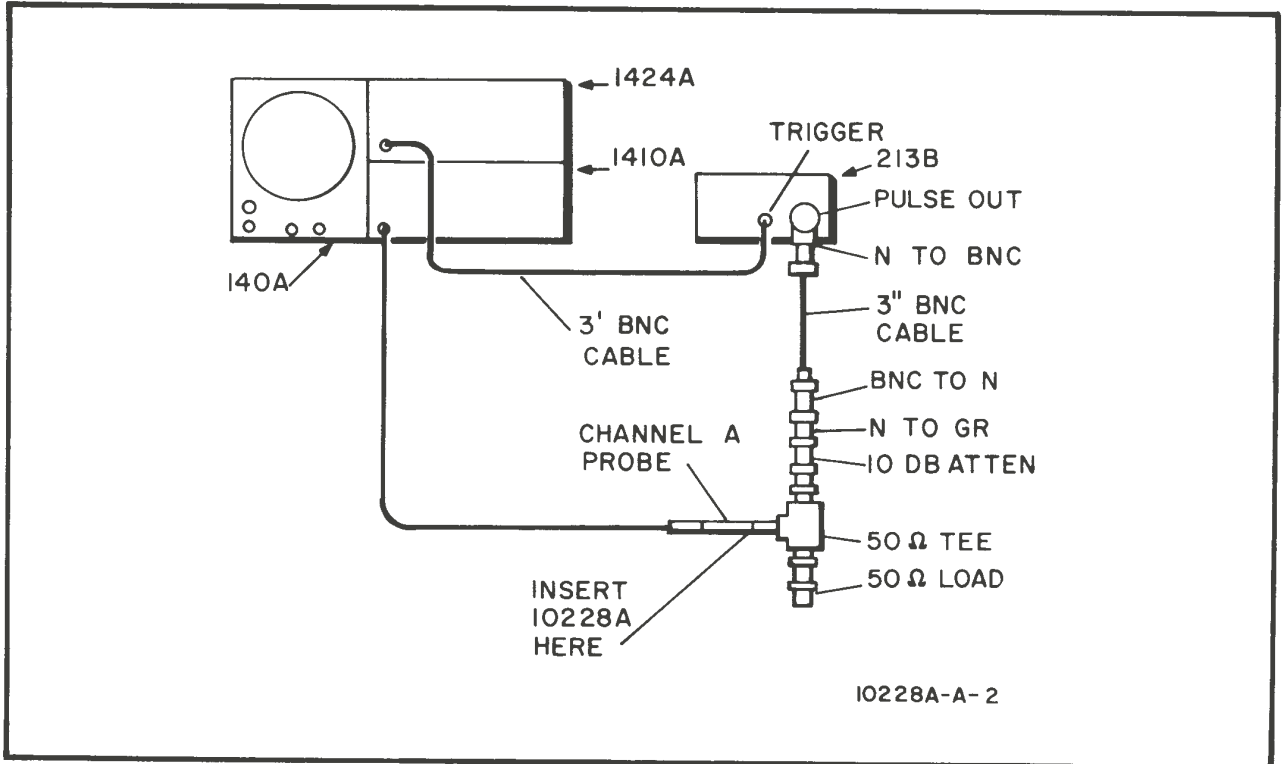

Figure 3. Test Set-up
- c. Make connections as shown in Figure 3.